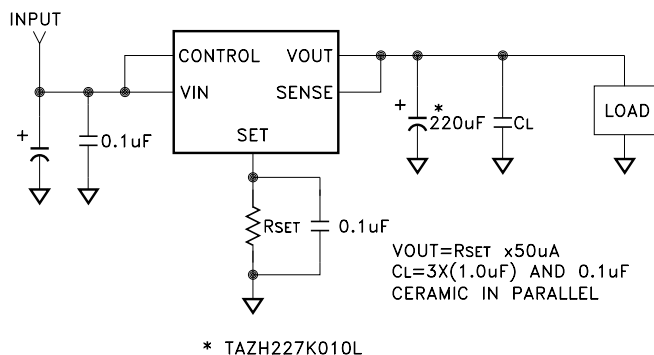

FIGURE 1
- ① Output is decoupled to ground using a 220μF tantalum low ESR capacitor in parallel with 3 pieces of 1.0μF and one 0.1μF ceramic capacitor unless otherwise specified. Sense pin connected to VOUT unless otherwise specified. (See Figure 1).
- ② Guaranteed by design but not tested. Typical parameters are representative of actual device performance but are for reference only.
- ③ Industrial grade devices shall be tested to subgroup 1 unless otherwise specified.
- ④ Class H and K devices shall be 100% tested to subgroups 1, 2 and 3.
- ⑤ Subgroup 1 TA = TC = +25°C